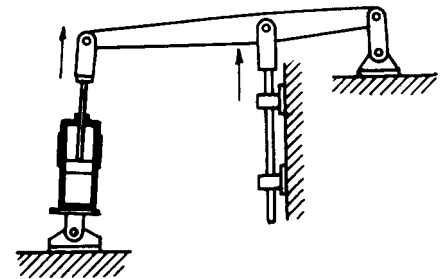

Fig. 6 The point of application of force follows the direction of thrust.
**Fig. 6** A Roots compressor has two identical impellers with specially shaped teeth. The shafts are connected by external gearing to ensure constant contact between the impellers.